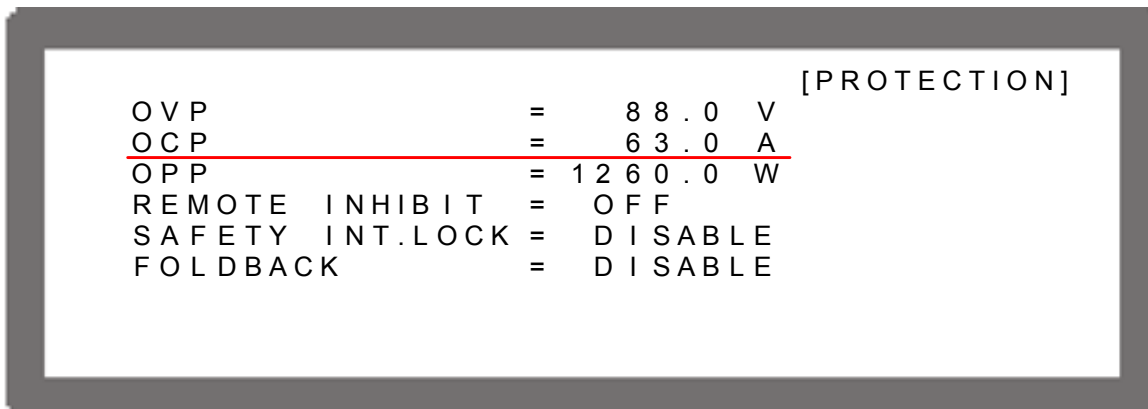

Figure 3-77
1. Use “”, “” keys to move the cursor to the column to be set as Figure 3-77 shows.